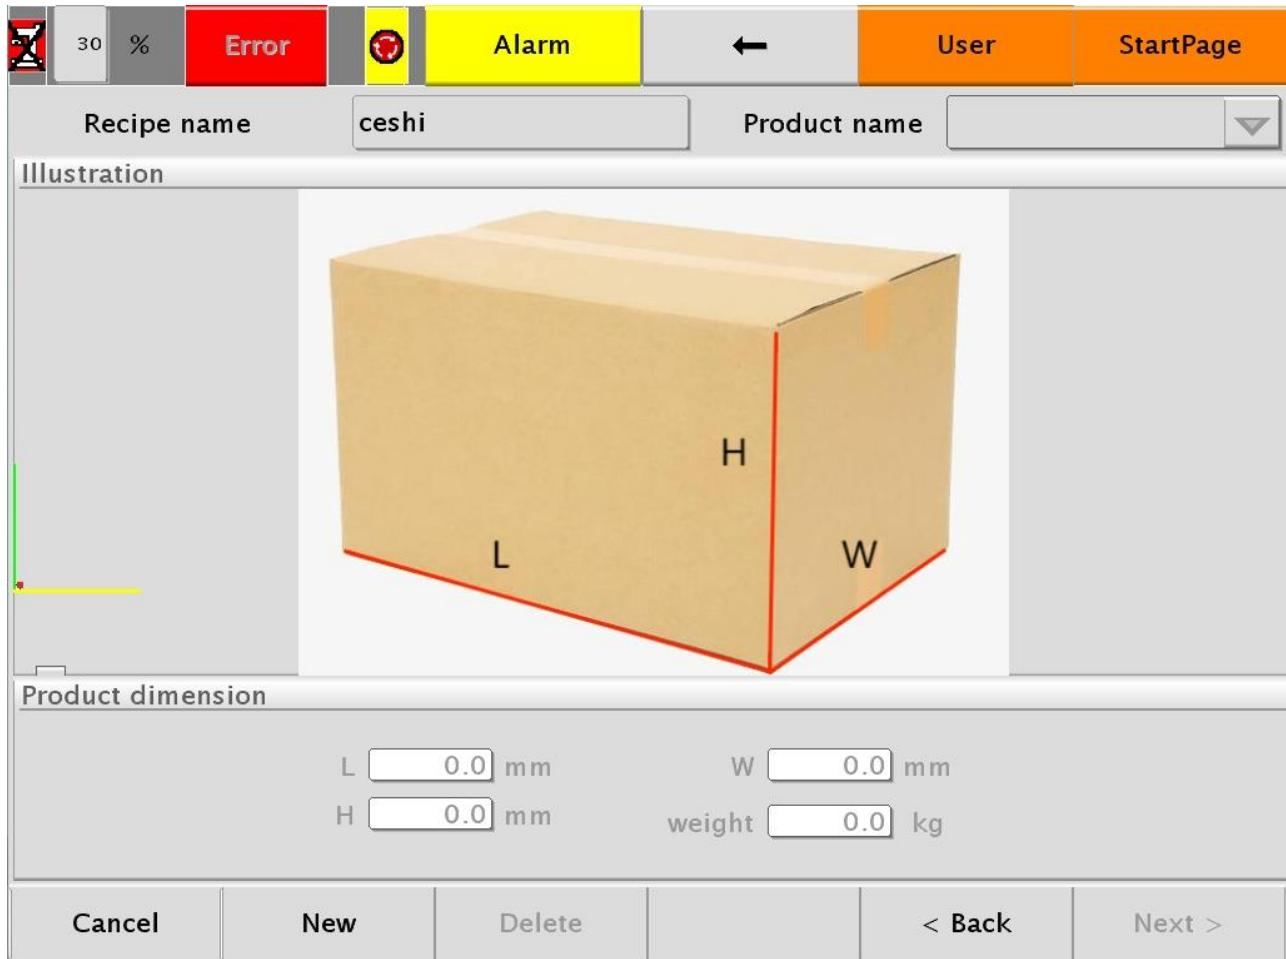

Figure 33
(4) Click "Next" pop-up as shown in **Figure 33** below.
As shown in **Figure 33** above, the white area is the code disc area we are currently using, and the gray rectangular box represents the box. We can manually drag the box to achieve the position we want to place the box to avoid overlapping and exceeding the white area, or we can click "Propose" to quickly sort, and we can also select the box to modify the values of "Pre\_X", "Pre\_Y" and "Pre\_Z" through "PrePos" to optimize the placement of the box.